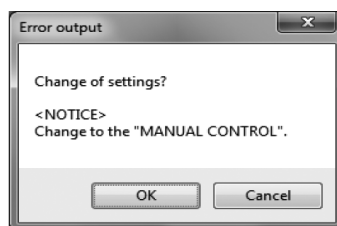

Fig.52
- ⑤ Once all the settings are complete, click the "OK" button to display the message box (Fig. 52).